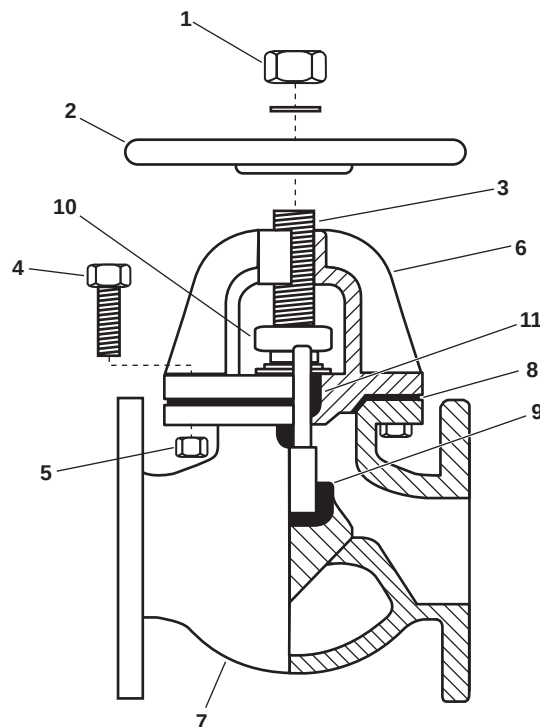

Figure 2. Flanged Globe Valve
1. Remove the nut (figure 2, item 1) and hand wheel (figure 2, item 2) from the valve stem (figure 2, item 3).
2. Remove the four bolts (figure 2, item 4) and four nuts (figure 2, item 5). Remove the bonnet (figure 2, item 6) from the valve body (figure 2, item 7).
3. Remove and discard the gasket (figure 2, item 8).
4. Remove the spiral-wound gasket (figure 2, item 9) and the disk (figure 2, item 10) from the valve body (figure 2, item 7). Discard the spiral-wound gasket and the disk.
5. Remove the O-ring (figure 2, item 11) from the bonnet (figure 2, item 6). Discard the O-ring.
3. Install a new O-ring (figure 2, item 11) and secure it in the bonnet (figure 2, item 6).
4. Install a new disk (figure 2, item 10) and a new spiral-wound gasket (figure 2, item 9) in the valve body (figure 2, item 7).
5. Install a new gasket (figure 2, item 8) between the valve body (figure 2, item 7) and the bonnet (figure 2, item 6).
6. Install the bonnet (figure 2, item 6) and secure it to the valve body with the four bolts (figure 2, item 4) and four nuts (figure 2, item 5).
7. Install the hand wheel (figure 2, item 2) on the valve stem (figure 2, item 3) and secure it with the nut (figure 2, item 1).